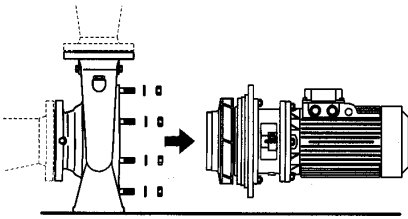

Fig.: 6
4. *Start up the basin water recycling pump, checking the direction of rotation which is marked by an arrow on the pump and the electric values of tension and intensity which should not overcome the suitable ones in the motor label. In some cases, due to oxidation for the rain water, the impeller of the pump can present a slight blockade. In this case stop the pump immediately and to unblock the impeller manually disassembling the pump if necessary. (To see Fig. 6)*
3. Extraer el conjunto del motor y partes móviles del cuerpo de la bomba.(ver fig.: 6)
3. Extract the motor and mobile parts of the pump. (See fig.:6)